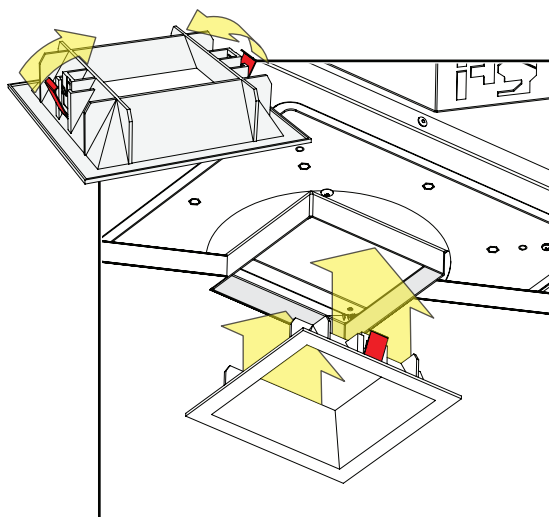

fig. 13
3. Compress the springs and push into the downlight aperture until the trim is flush to the ceiling. Ensure that the springs are properly compressed and are going into the collar, not around the collar (see fig. 13).